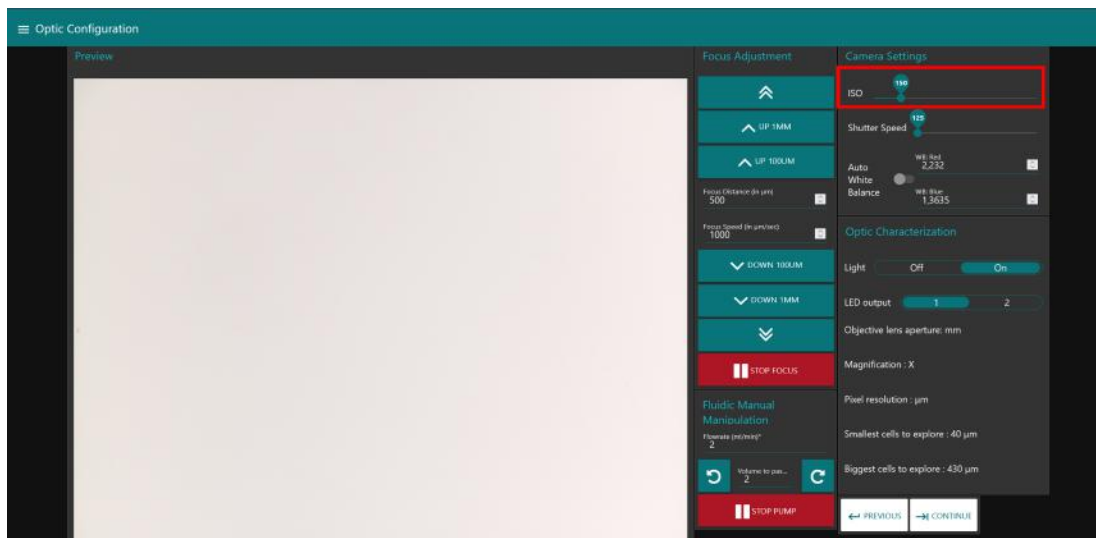

Figure 6: The red box highlights the location of the ISO setting
- Under "Camera Settings", you can see a button to change the ISO value (Fig.6). **Set the ISO to 150.** You should see your Preview image change color when you adjust this setting. The ISO is the light sensitivity of the camera. A low ISO will be less sensitive to light and then darker. A low ISO tends to provide images of better quality.